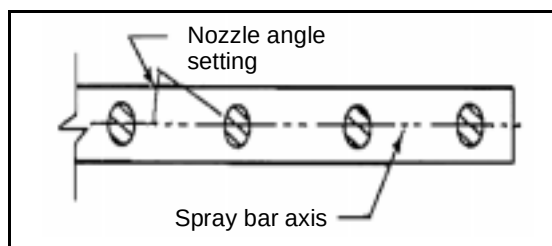

Figure 12-3. Proper Nozzle Angle Setting
- Nozzle angle setting.** To attain a good edge, the end nozzles are often set at a different angle ( $60^\circ$  with respect to the spray bar) from the other nozzles. Do not permit this practice because it produces a fat streak on the edge and robs the adjacent spray fan of the lap from this nozzle. A curtain on the end of the bar or a special end nozzle with all nozzles set at the same angle gives more uniform coverage and makes a better edge (*Figure 12-3*).